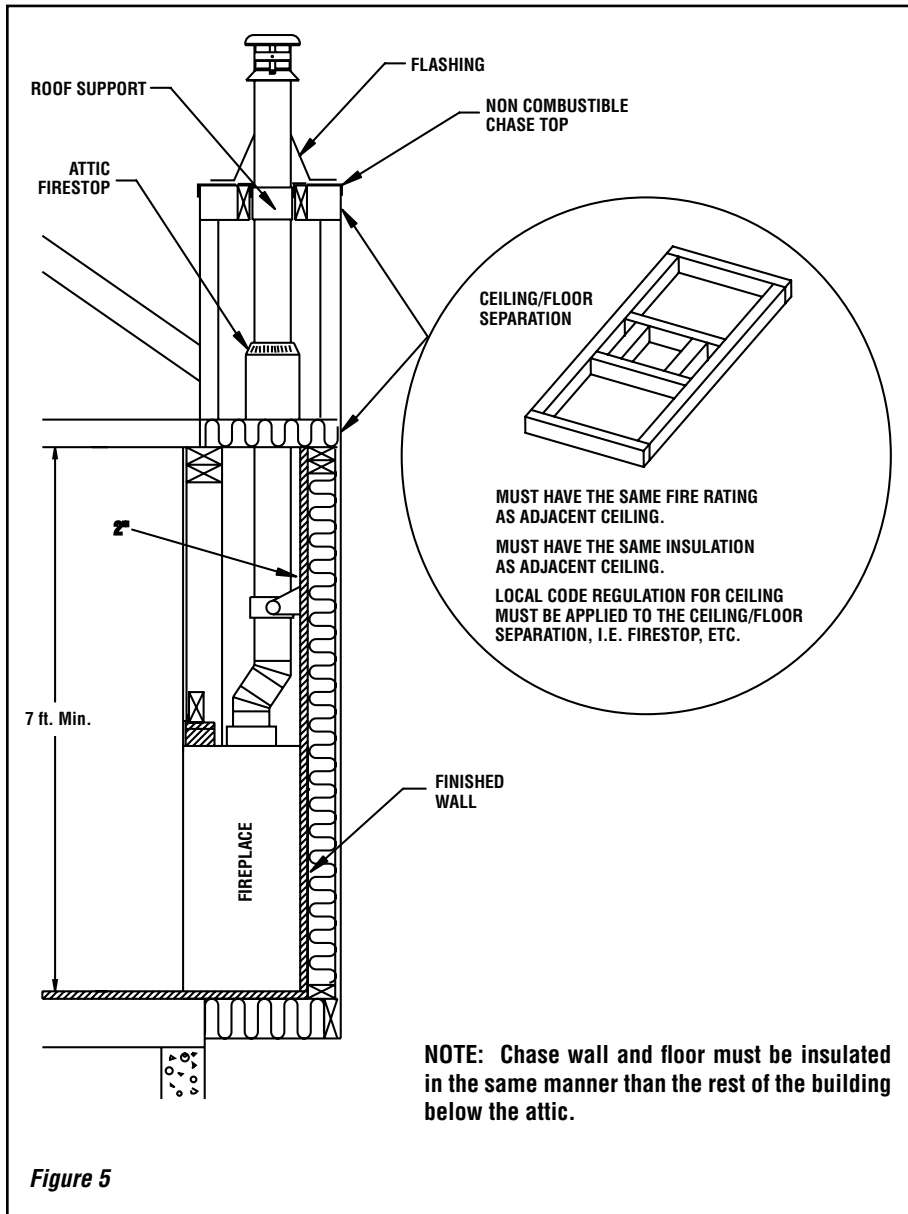

Figure 5
1. The fireplace must be installed against a finished wall (like drywall finish). It must not be installed against a vapor barrier or exposed insulation (see **Figure 5**).